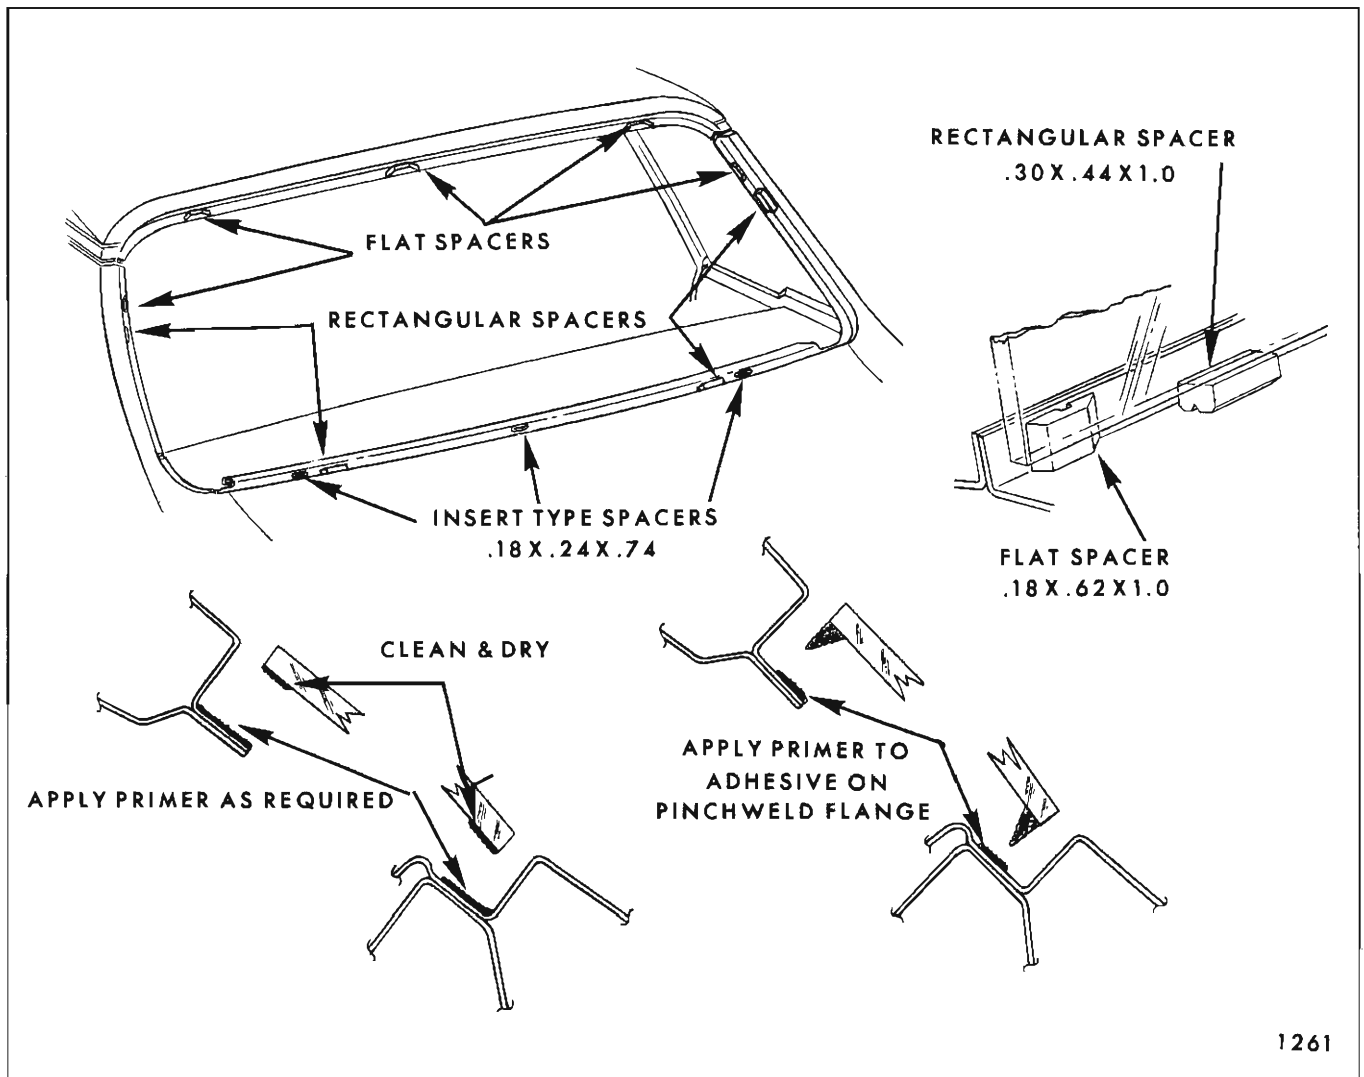

Fig. 2F4--Back Window Preparation and Spacer Installation
3. On all styles except "80" styles, install three (3) insert spacers (.18 x .24 x .74 - Part No. 4410043) into slots in compartment front and shelf panel across lower edge of back window opening (see Fig. 2F4).
4. With black weatherstrip adhesive, cement four (4) rectangular spacers (.30 x .44 x 1.0 - Part No. 4871330) to lower and side back window opening rabbet (see Fig. 2F4).